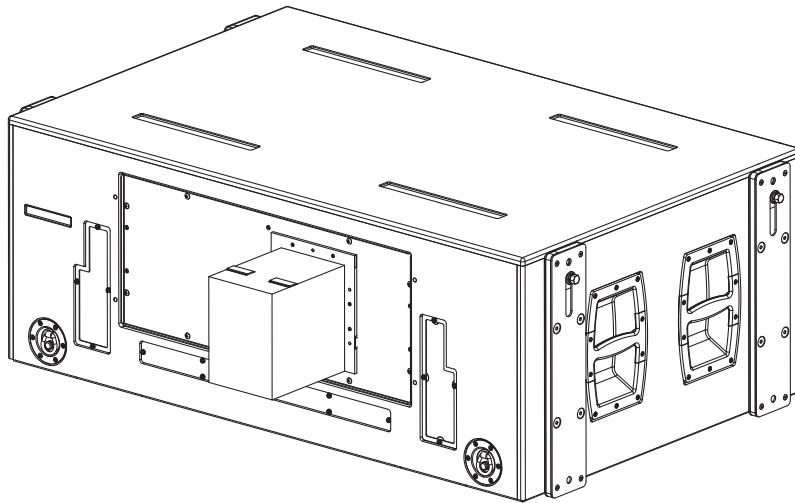

Figure 23: 1100-LFC with Rain Hood Expanded
4. Fold the two struts downward and outward and insert them into the two side pockets to expand the rain hood (Figure 23).